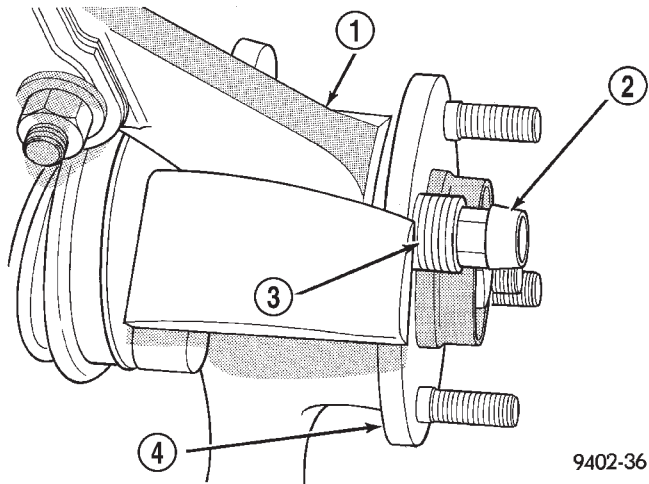

Fig. 61 Installing Wheel Stud Into Hub
(1) Install replacement wheel stud into flange of hub and bearing assembly. Install washers on wheel stud, then install a wheel lug nut on stud with flat side of lug nut against washers (Fig. 61).
(2) Tighten the wheel lug nut, pulling the wheel stud into the flange of the hub and bearing assembly.